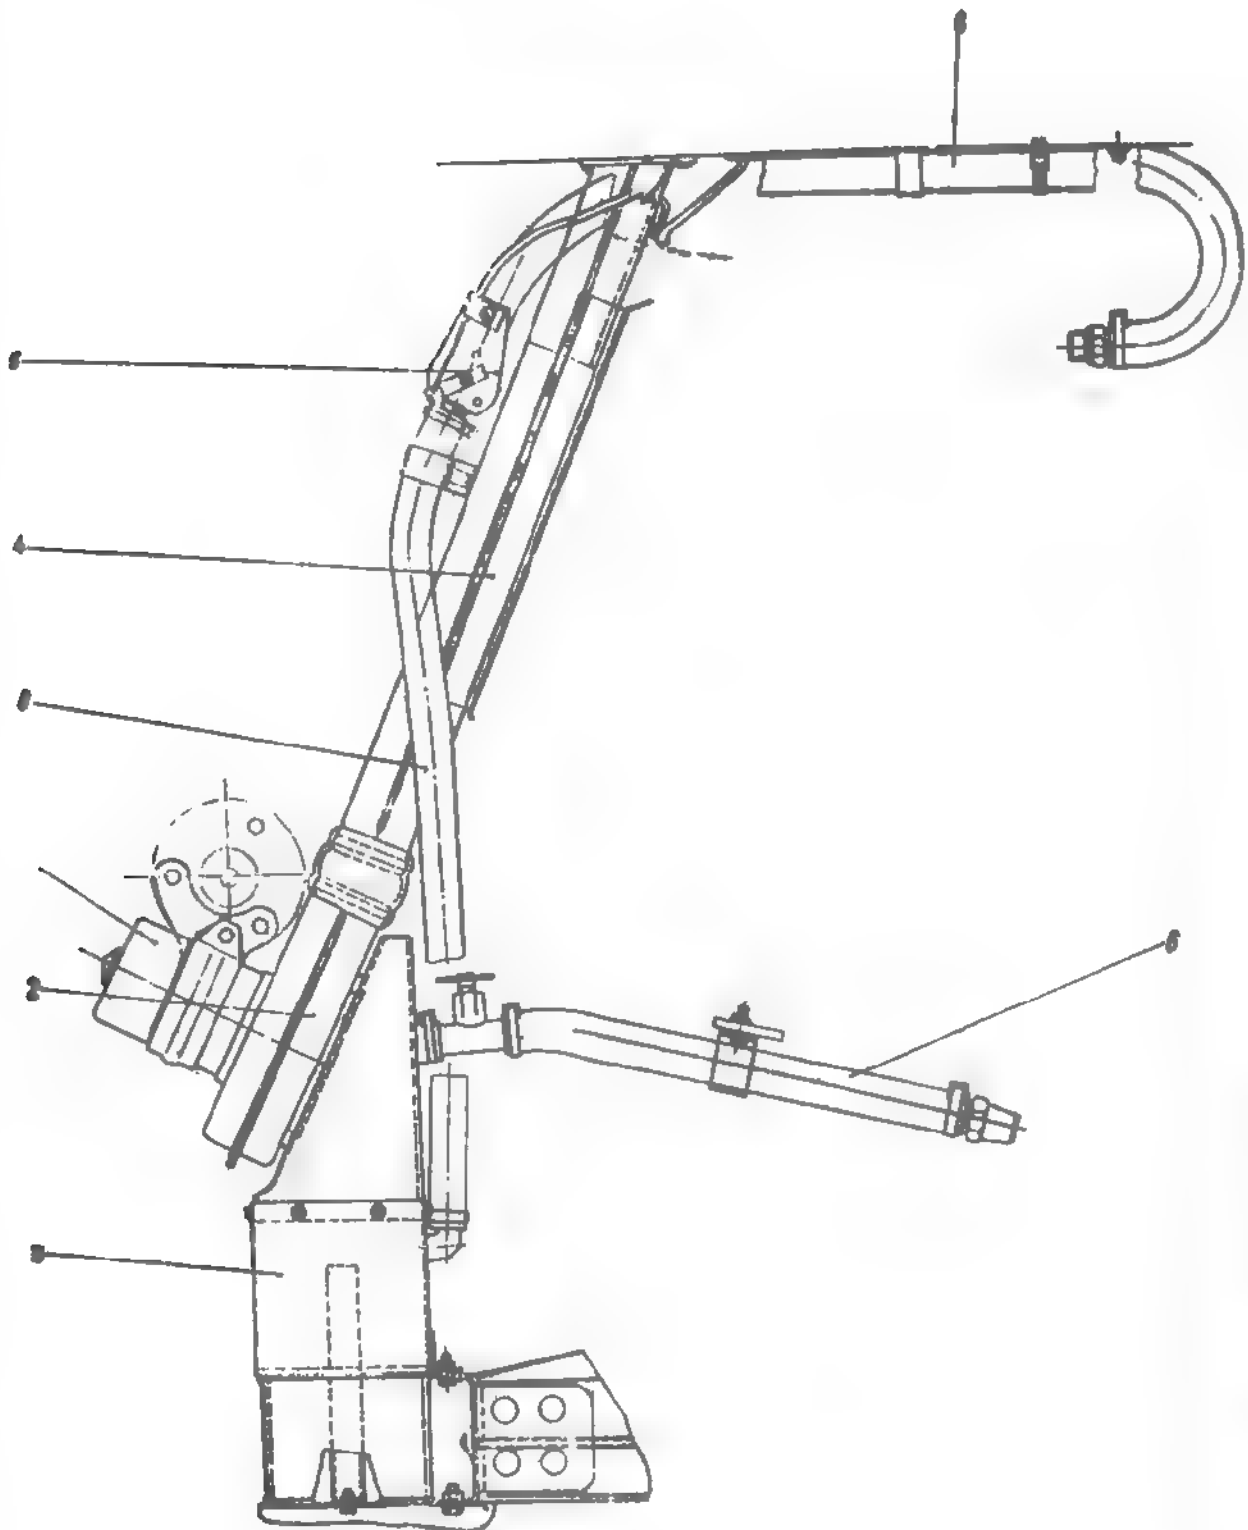

Fig. 4.172. HEATING VENTILATING SYSTEM
The heating & ventilating system is located in the engine area, being fitted on the vehicle body. It consists of: heater unit (3) - see Fig. 4.172 - fan assy (2), connecting duct (4), radiator water hoses (6) and flexible warm air pipes, heat adjusting tap (5). The heater unit is fitted on the grill panel and provides the air heating, by the agency of the in-built radiator, which receives necessary warm water, through the connecting pipes, between the heating unit and water pump and, between the heating unit and cylinder head.
- The warm circulation is provided by the fan (2), which causes a vacuum in the heating unit, delivering the warm air through the connecting pipe and flexible hoses towards vehicle inside.
- The opening and shutting of the water flow is controlled by the agency of the adjusting tap (5), inserted between the heating unit and the cylinder head.